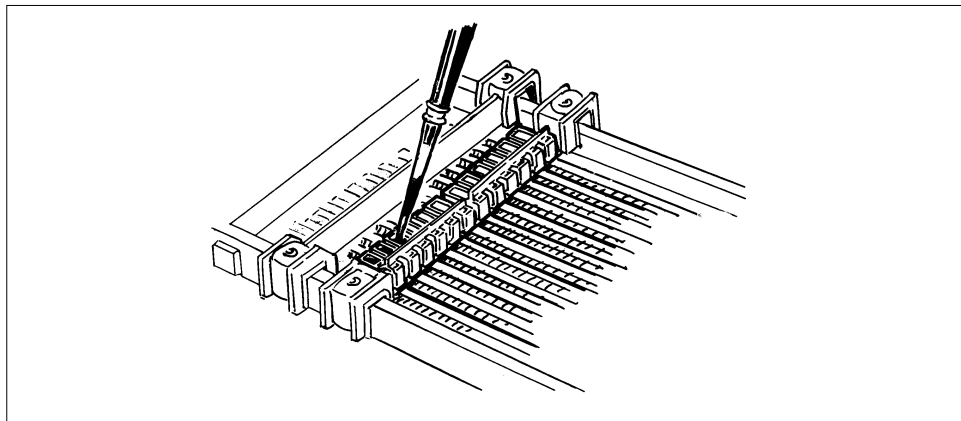

Fig. 19
- Pipette your samples into the cups by underlaying. The sample should sink to the bottom of the cup. Watch again for leakage (Fig. 19). The samples should have already been prepared according to the instructions at the beginning of Day 2 activities.